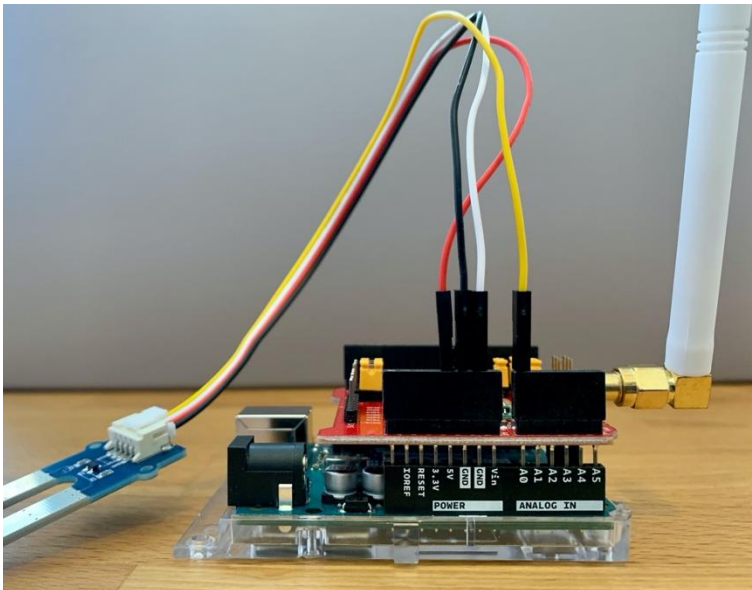

Figure 13: All wires connected, including unused white wire
- d. The white wire is not used, we can connect it to the second GND terminal to keep it out of the way (Figure 13)